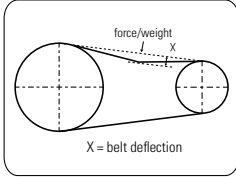

FIGURE 8.4
Transmission belts and electric motor (6) (Figure 8.4 and 8.5)
- (6) To check, remove the belt guard. After inspection, mount the guard with fixing screws (Figure 8.4 and 8.5). Replace belts whenever necessary.
- (7) Check the tank load time. If above 20% in relation to what is indicated in Table TECHNICAL CHARACTERISTICS have the piston rings replaced.
- (8) Refasten the bolts of the compression unit by means of a torque meter and use a hand wrench for the nuts and connections.
- (9) CSV 15, CSV 20 and CSV 40 compressors: if blocked, clean with compressed air jet or replace if damaged. CSV 40 and CSW 60 compressors: the crankcase filter must be replaced by a SCHULZ AUTHORIZED DEALER.
- (10) Clean the radiator with compressed air jet at maximum pressure of 40 PSI.
- (11) When removing the compressor's valve, read the Chapter – SAFETY INSTRUCTIONS, item 9.